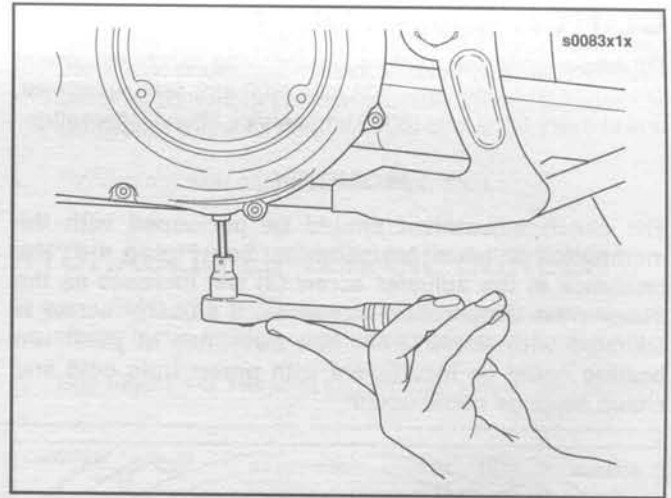

Figure 1-4. Removing Chaincase Drain Plug
- See Figure 1-4. Remove drain plug at bottom of primary chaincase. Drain lubricant into suitable container.